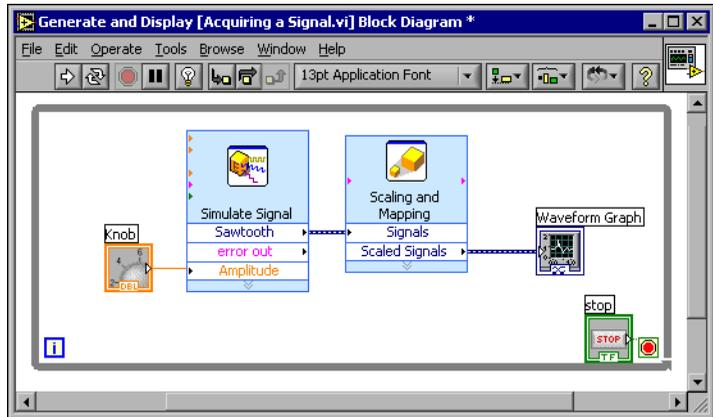

Figure 1-8. Block Diagram for the Acquiring a Signal VI
- Notice the wires connecting the Express VIs and terminals. The arrows on the Express VIs and terminals indicate the direction that the data flows along these wires. The block diagram should appear similar to Figure 1-8.